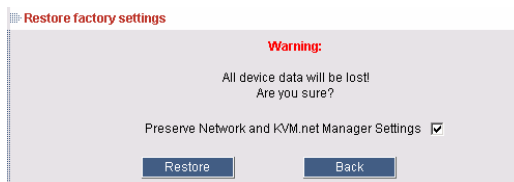

Figure 25 Restore factory settings
5. From the menu choose **Restore Factory Settings**. A warning appears see Figure 25.